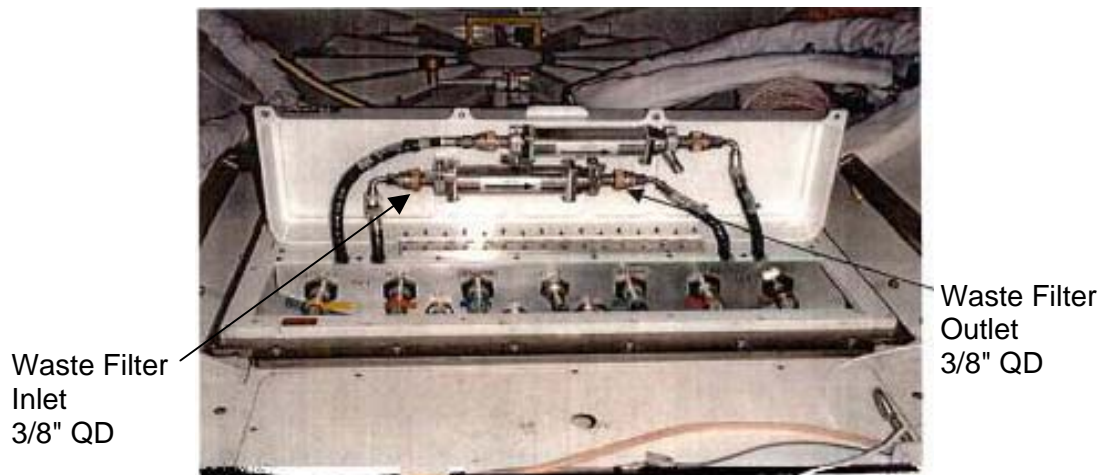

Figure 1.- UIA Biocide Filters.
2. Refer to Figure 1 for UIA Waste biocide filter location.